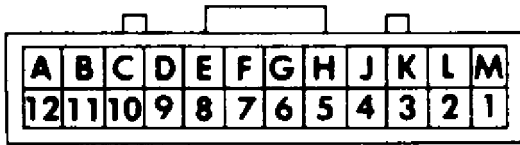

Fig. 3: Control Head Connector
3) Connect test lamp between control head terminal 1 and ground. If test lamp lights, check wire from control head terminal 12 and ground for open circuits. If background lights are not working, replace control head. See Fig. 3.